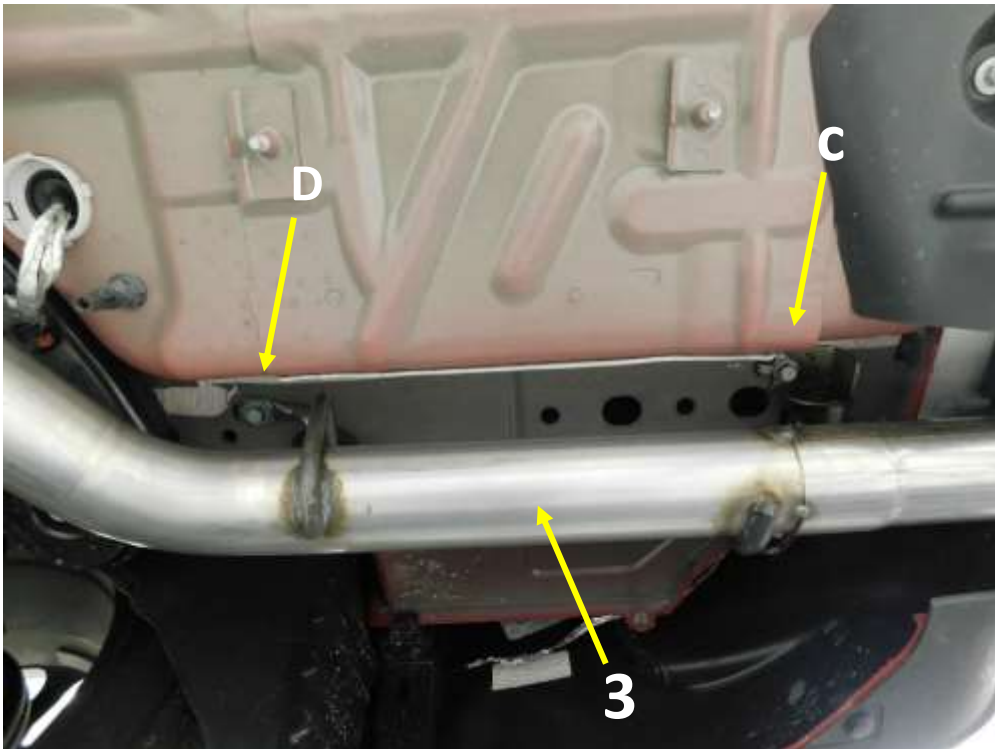

Figure 6
10. Remove the right muffler hangers from the factory exhaust and install the hanger assemblies **(C)** & **(D)** on to the right Flowmaster tailpipe **(3)** as shown in **Fig. 6**. Be sure they are positioned in the same location and orientation as they were on the factory exhaust.